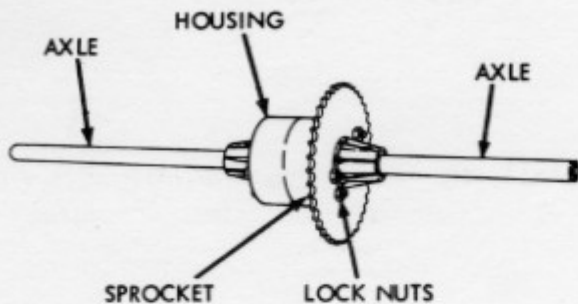

Figure 101
2. Remove (4) lock nuts and cap screws, Figure 101 from housing. Remove sprocket and separate differential carrier housings.